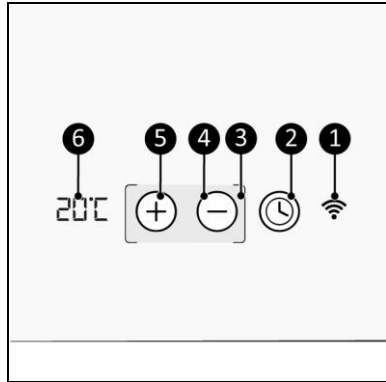

Figure 4
The LED-screen will extinguish automatically after ± 15 seconds. Touch the device between the brackets (Figure 4, pos. 3) to light it up again.